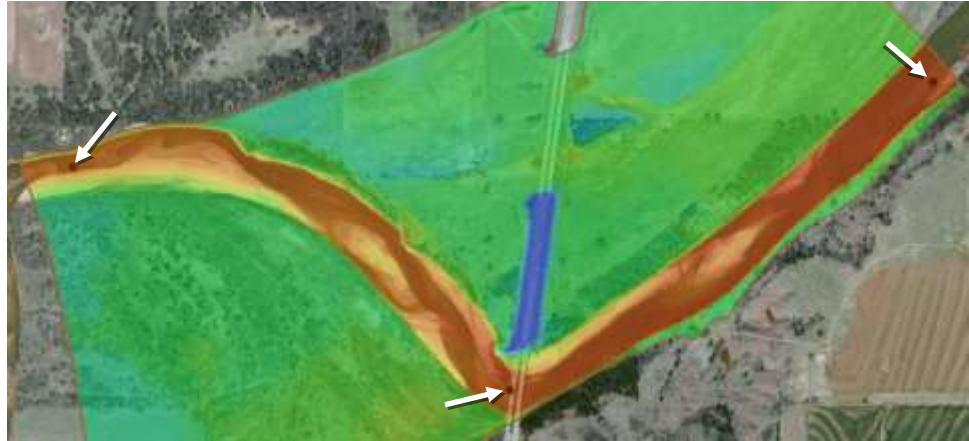

Figure 5 Monitor points at upstream, midway between, and downstream
5. Using the **Create Feature Point**  tool, create three monitor points as shown in Figure 5.